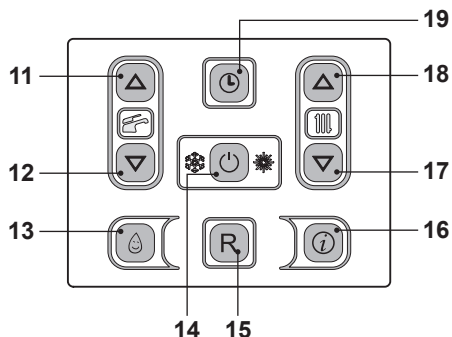
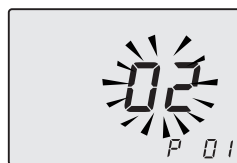

Fig. 9.1
Fig. 9.2
- Enter "programming mode" by holding down keys 14 - 17 - 18 together for 10 seconds (Fig. 9.1) until the LCD display indicates the letters **P01**, indicating entry in "parameter 01" (Fig. 9.2).
- By pressing key 14 (Fig. 9.1) confirmation of the inserted value is obtained.